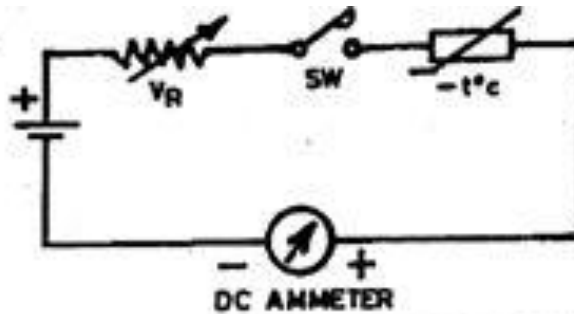

FIG. 1. SIMPLE TEMPERATURE MEASUREMENT CIRCUIT USING A THERMISTOR
When a thermistor is connected in a simple circuit of Fig.1, consisting of a battery and a D.C. ammeter, any variation in temperature causes a change in thermistor resistance and a corresponding change in circuit current. The meter can be calibrated directly in terms of temperature.
2. Why a bridge circuit is better than the simple circuit of Fig. 1?